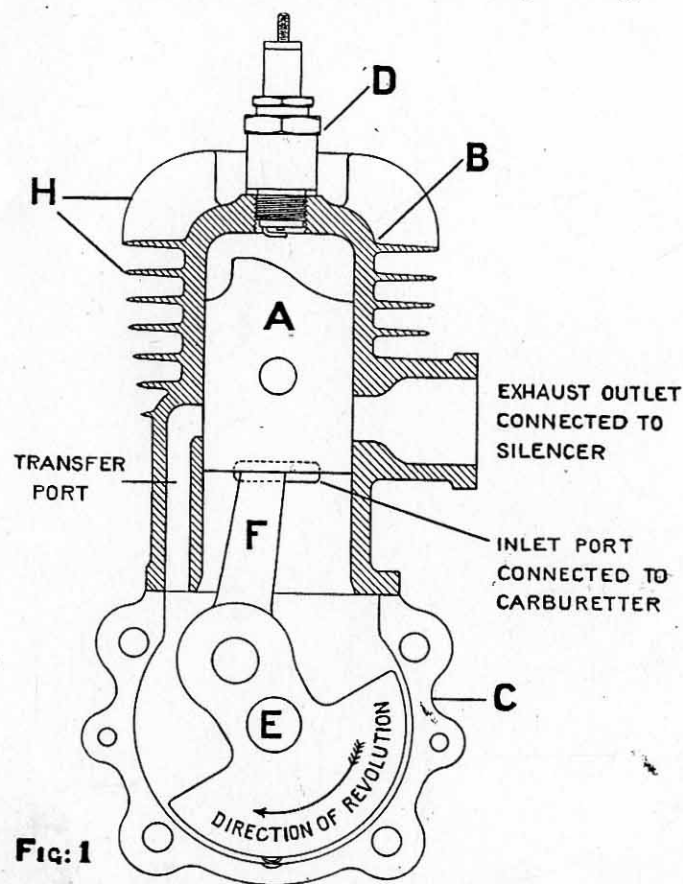

Fig: 1
As we cannot utilise our gas pressure without enclosing it, *i.e.*, in the inside of the cylinder, we must unfortunately lose valuable heat to the surrounding metal walls, and if special precautions were not taken to prevent it, we should find after a period of running at a fair number of revolutions per minute, the amount of heat had kept on piling up to such an extent that the lubricating oil, however good it was in the first place, would lose its lubricating properties, and finally all the moving parts in the engine would come to grief, both because they had become so hot themselves, and also for lack of efficient lubrication. You will notice therefore that the cylinder of our engine is formed with thin "fins" or webs of metal all round the outside and across the top. These are plainly indicated by the letter (H) on Figs. 1 and 2 on pages 18 and 21, and their use is to give a large extra surface so that excess heat is taken away by the ever changing air surrounding the cylinder.
The first drawing, Fig. 1, shows the piston (A) moving upwards in the cylinder (B), and a charge of gas which is a mixture of Air and Petrol and Oil, called Petroil, in proper proportions, being compressed.